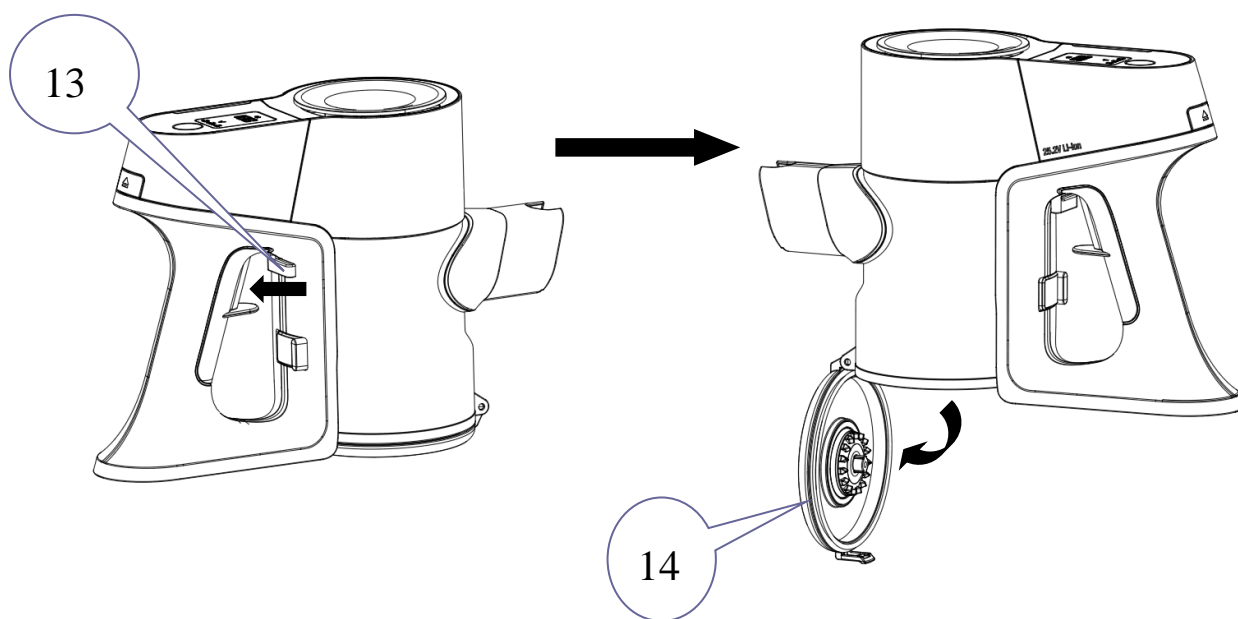

Figure 6-10
6.8 The one-touch Easy-open makes emptying the dirt cup quick and easy. See Figure 6-10. Dirt disposal: Hold the vacuum above a garbage bin and pull the Dust Release Key (No.13) with a finger, so that the Dirt Cup Cover pivots down and the dirt inside the Dirt Cup will fall out into the garbage bin. **Make sure not to lose the large gasket ring (No.14) or the vacuum will not pick up properly.**